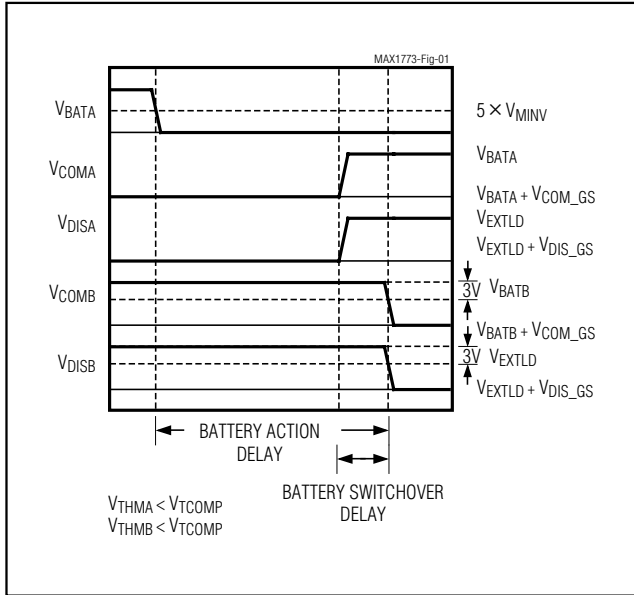

Figure 1. Battery Delay (Battery A to Battery B)
**Note 6:** Battery Switchover Delay starts when either  $V_{COM\_}$  or  $V_{DIS\_}$  of the connected battery begins to rise and ends when both  $V_{COM\_}$  and  $V_{DIS\_}$  of the other battery have fallen 3V below their sources (Figures 1 and 2).
**Note 7:** Battery Action Delay starts when the connected battery's voltage falls below  $5 \times V_{MINV}$  and ends when both  $V_{COM\_}$  and  $V_{DIS\_}$  of the other battery have fallen 3V below their sources (Figures 1 and 2).